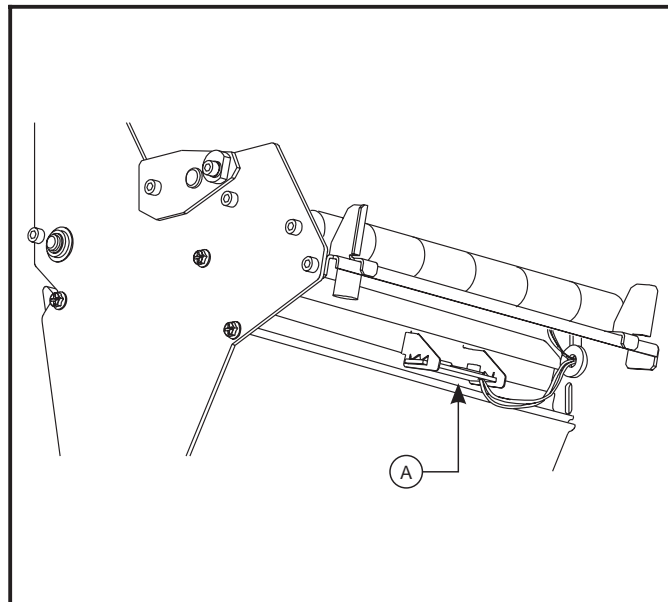

Figure 2.10 Lower Media Sensor
1. Locate the lower media sensor assembly under the rear idler roller (Figure 2.10-A). (It is a spring clip holding a circuit board.)